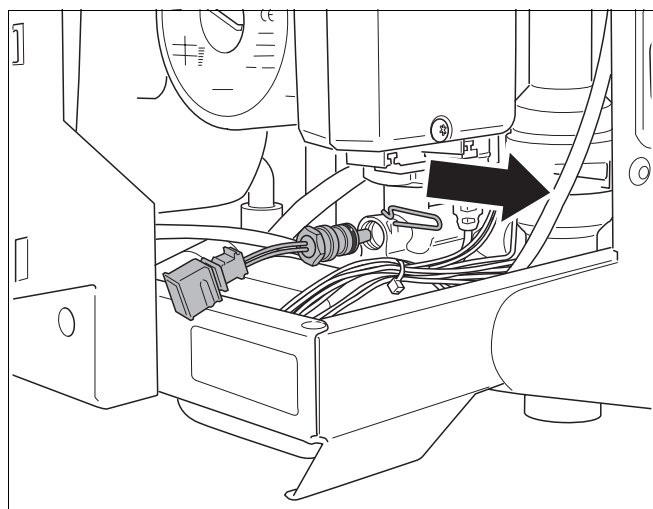

fig. 85 Disconnect plug return sensor
- Disconnect the plug of the return sensor (see fig. 85).